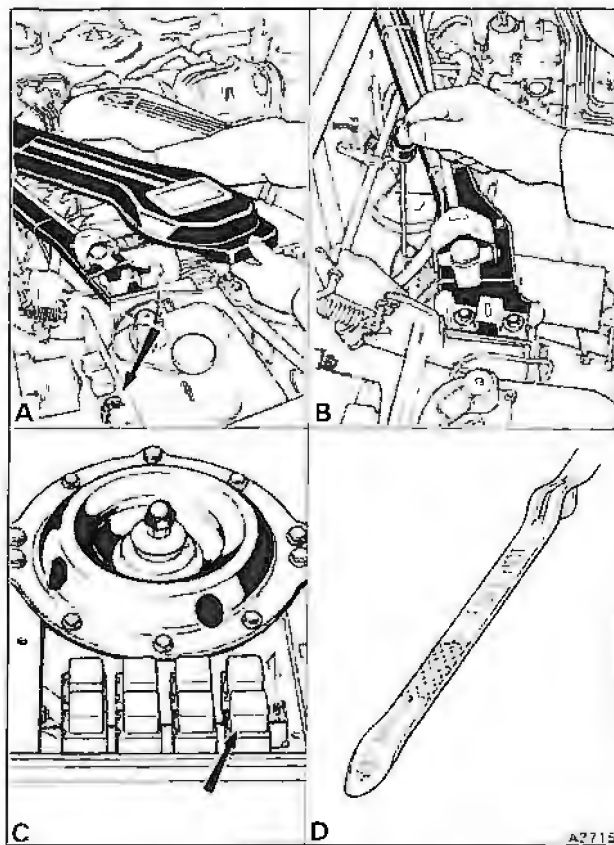

Fig. T3-1 Transmission filler tube and dipstick
Ensure that the windscreen wiper control switch situated on the fascia is in the off position. Remove a windscreen wiper relay, preferably number three (see fig. T3-1). To remove the relay pull it vertically from its mounting.
9. With the transmission fluid at normal operating temperature the level of the fluid should be within the cross hatched area marked on the dipstick (see fig. T3-1).